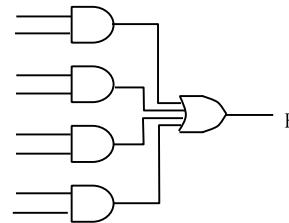

Figure 2-11
39. Write the output expression of the circuit shown in Figure 2-11.
40. Figure 2-12 shows the NAND gate implementation of the circuit in figure 2-11. Wire the circuit shown in Figure 2-11. The pin connections for the 74LS00 and 74LS20 are given in Figure 2-13. Be sure to connect pin 14 to +5 volts and pin 7 to GND on each IC. Connect +5V to all unused inputs.
46. Compare the two F output columns in Table 15. What conclusion can you reach regarding the circuits in Figure 2-11 and 2-12?
By comparing the two F output columns in Table 15, it is evident that both circuits in Figures 2-11 and 2-12 produce identical outputs for every possible combination of inputs A, B, C, and D. This means that the two circuits are logically equivalent, performing the same Boolean function even though their configurations or arrangements of logic gates may differ.